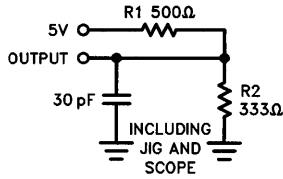

Figure 1a
- Test conditions assume signal transition time of 5 ns or less, timing reference levels of 1.5V and output loading of the specified I_{OL}/I_{OH} and 30 pF load capacitance, as in Figure 1a, unless otherwise specified.